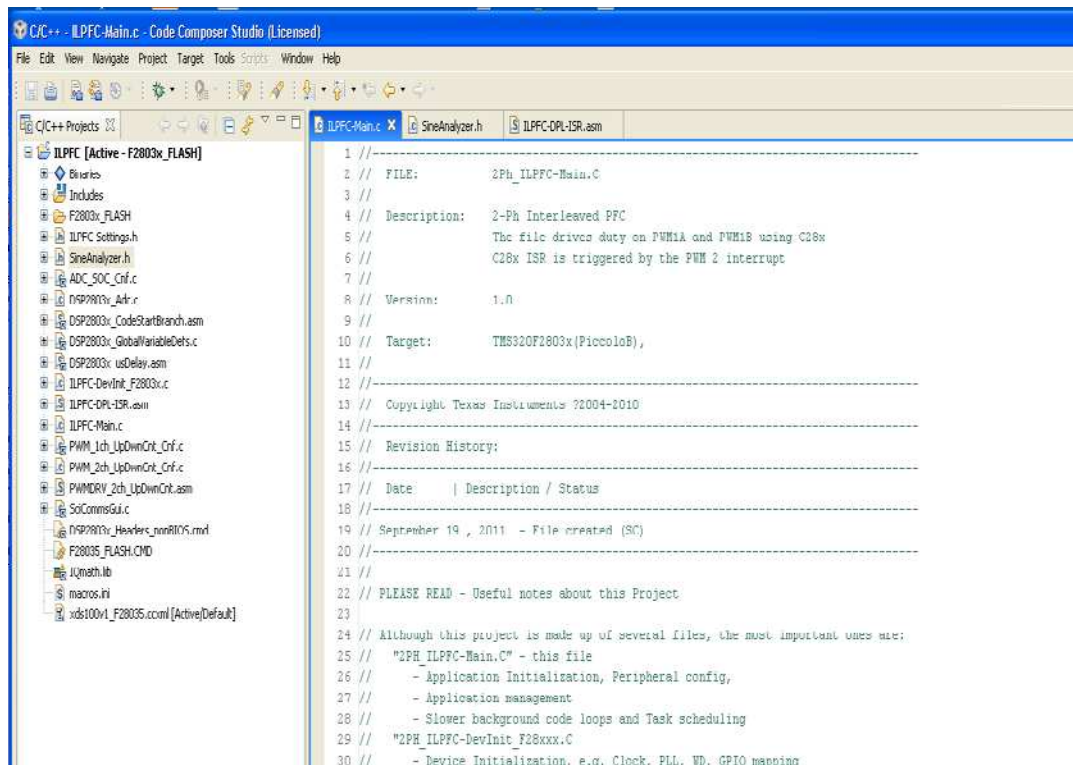

図 9. CCS Project Window
3. In the project window on the left, click the plus sign (+) to the left of Project. Your project window will look like the following in Figure 9: